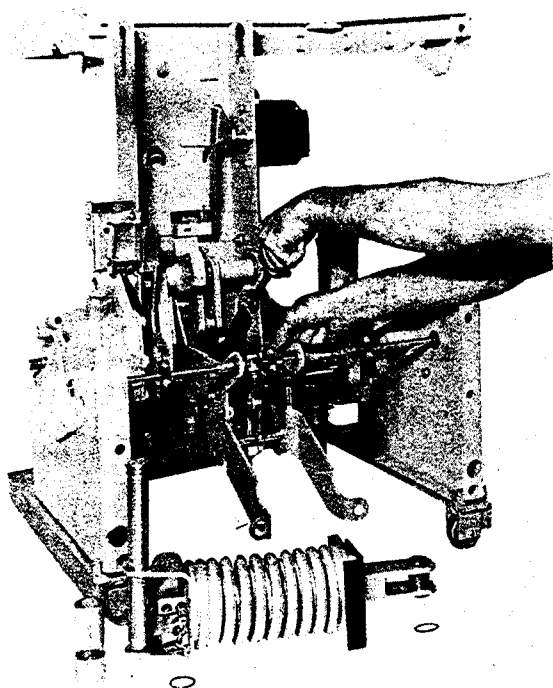

Fig. 12 (8018989) Rear view of front frame-AK-50 showing cam shaft locking plate being loosened
2. Remove closing springs and crank-shaft as illustrated in Fig. 12 and 13.